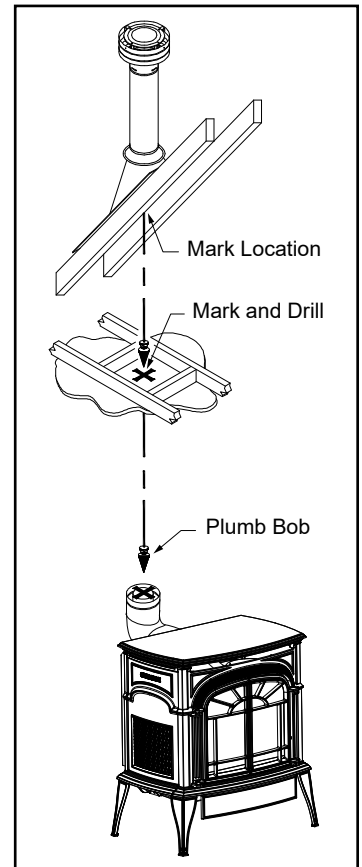

Figure 3.32
Step 2 - Set the gas appliance in the desired location. Drop a plumb bob from the ceiling to the position of the appliance flue exit, and mark the location where the vent will penetrate the ceiling. Drill a small hole at this point. Next, drop a plumb bob from the roof to the hole previously drilled in the ceiling, and mark the spot where the vent will penetrate the roof, Figure 3.32. Determine if ceiling joists, roof rafters, framing or other materials will obstruct the venting system. You may wish to relocate the appliance or to offset, to avoid cutting load-bearing members.